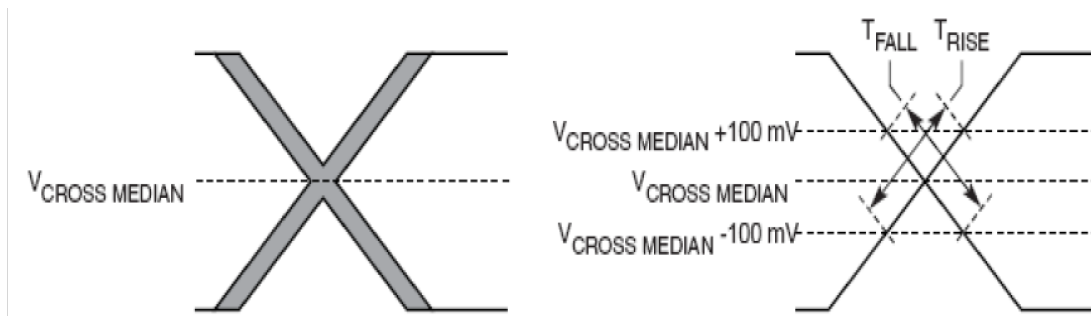

Figure 40. Single-Ended Measurement Points for Rise and Fall Time Matching
- Matching applies to rising edge for SD_REF_CLKn and falling edge rate for $\overline{\text{SD_REF_CLKn}}$. It is measured using a 200 mV window centered on the median cross point where SD_REF_CLKn rising meets $\overline{\text{SD_REF_CLKn}}$ falling. The median cross point is used to calculate the voltage thresholds that the oscilloscope uses for the edge rate calculations. The rise edge rate of SD_REF_CLKn should be compared to the fall edge rate of $\overline{\text{SD_REF_CLKn}}$, the maximum allowed difference should not exceed 20% of the slowest edge rate. See Figure 40.